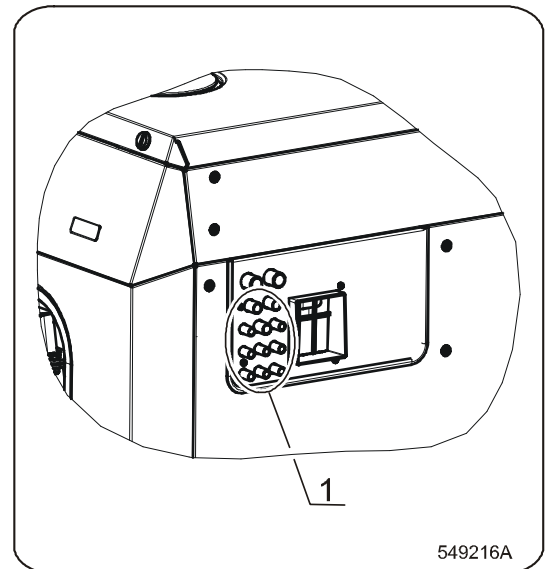

Figure 23
- The washer has provisions for connecting external dosing of liquid soaps. On the side, a plastic hose connection part is present, Figure 23, pos.1., to connect the liquid soap hoses. Depending of the number of liquid soap pumps that will be used, drill holes (max. 8) of $\varnothing 8$ mm / 0.315" in the plastic hose connection part for each pump. We recommend using the left openings for connecting the pumps first and setting the flow rate of the pumps to 60 to 100 l / hour. On the plastic hose connection part is also a 3 nipples of $\varnothing 12$ mm / $\frac{1}{2}$ ". Use this nipple ONLY for entering diluted soap. Drill with $\varnothing 11.5$ mm / 0.45". By default, these nipples are closed. Drill only the ones that will be used. Take care that the drill particles are carefully removed so that they can not clog up the hoses and openings.